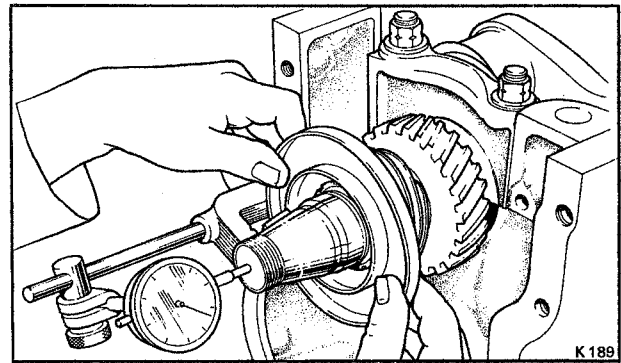

Fig. E12 Checking the crankshaft end-float
7. Check the crankshaft end - float (see Fig. E12 and Section E3, Dimensional data).